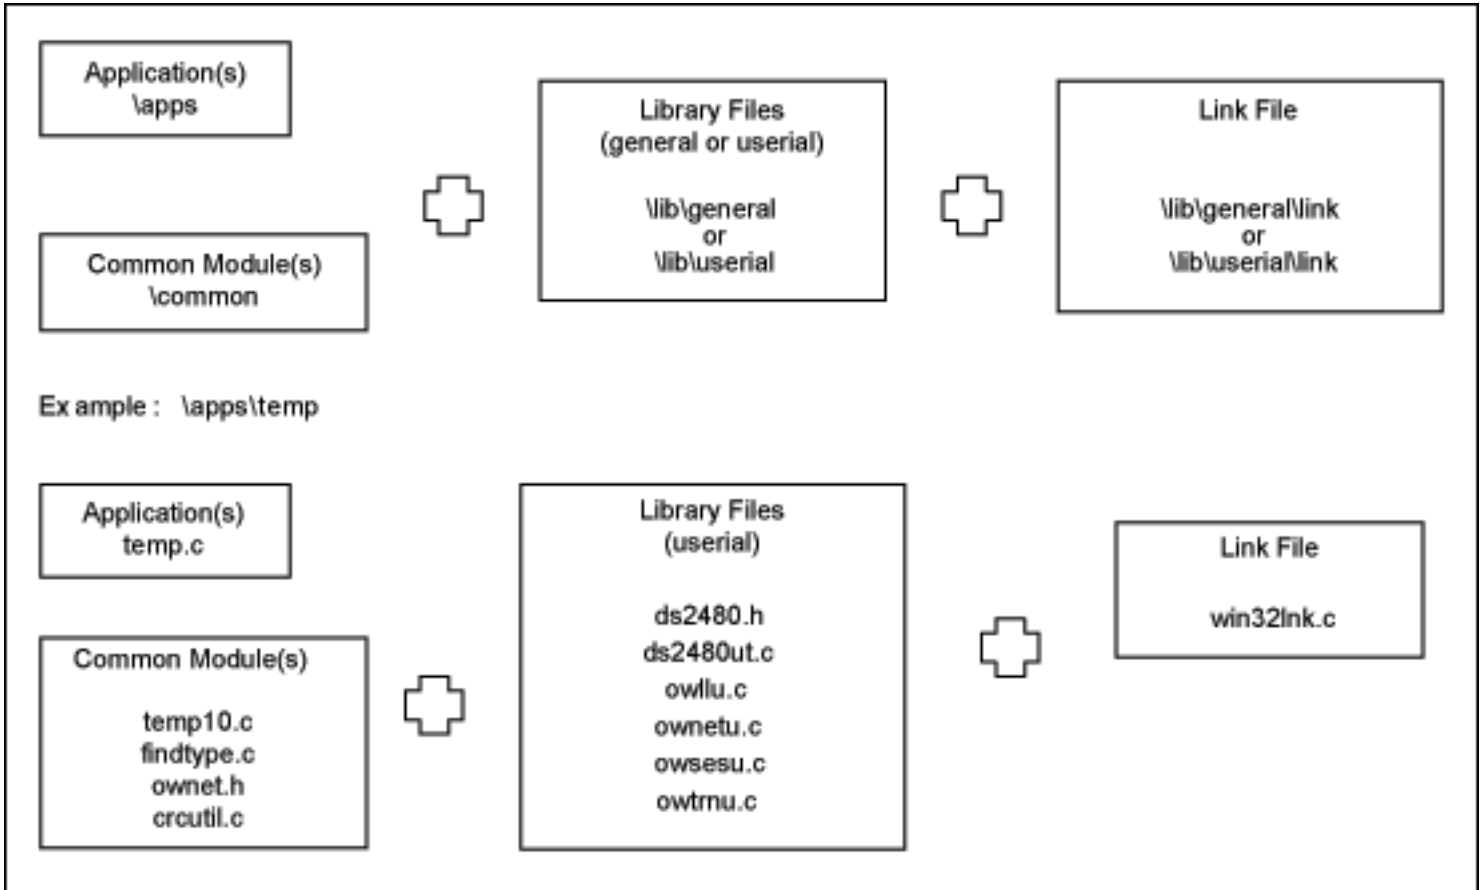

Figure 2. Files needed to construct an application.
- The last task for putting the application together is the Link file, which can be found in either \lib\userial\link or \lib\general\link. If the link file does not exist for the target platform, then you must complete the source code template files (for example, the TODO.C file for "userial" builds) provided with the kit. These link files have functions for your port and platform that need to be filled in correctly to get the 1-Wire PD kit working. **Figure 2** illustrates gathering all the files together with an existing Link file.